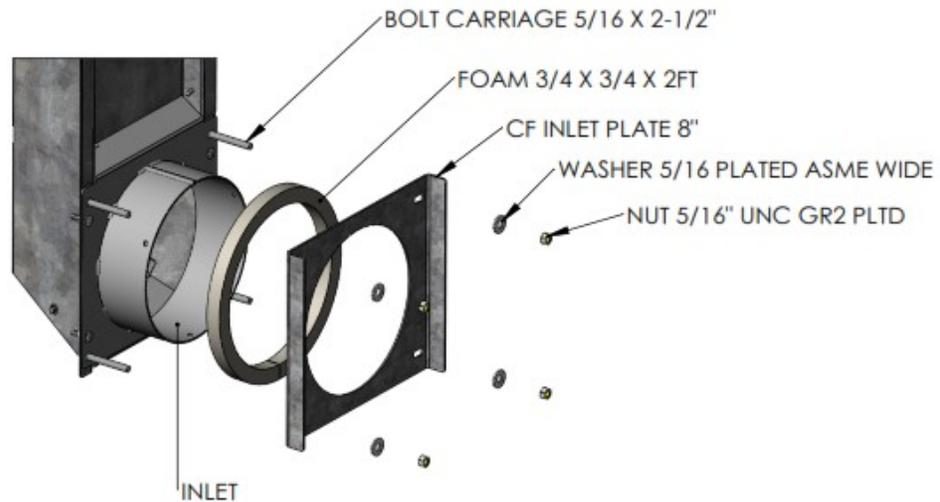

Figure 3.4.2b: Inlet Assembly
4. See Figure 3.4.2b. Once the COLUMN HOPPER 4FT has been secured to the hopper cone, the INLET can be bolted through the hopper cone. Use an electric drill with 11/32" bit (not supplied). From the inside of the bin, drill all holes through the inlet plate.